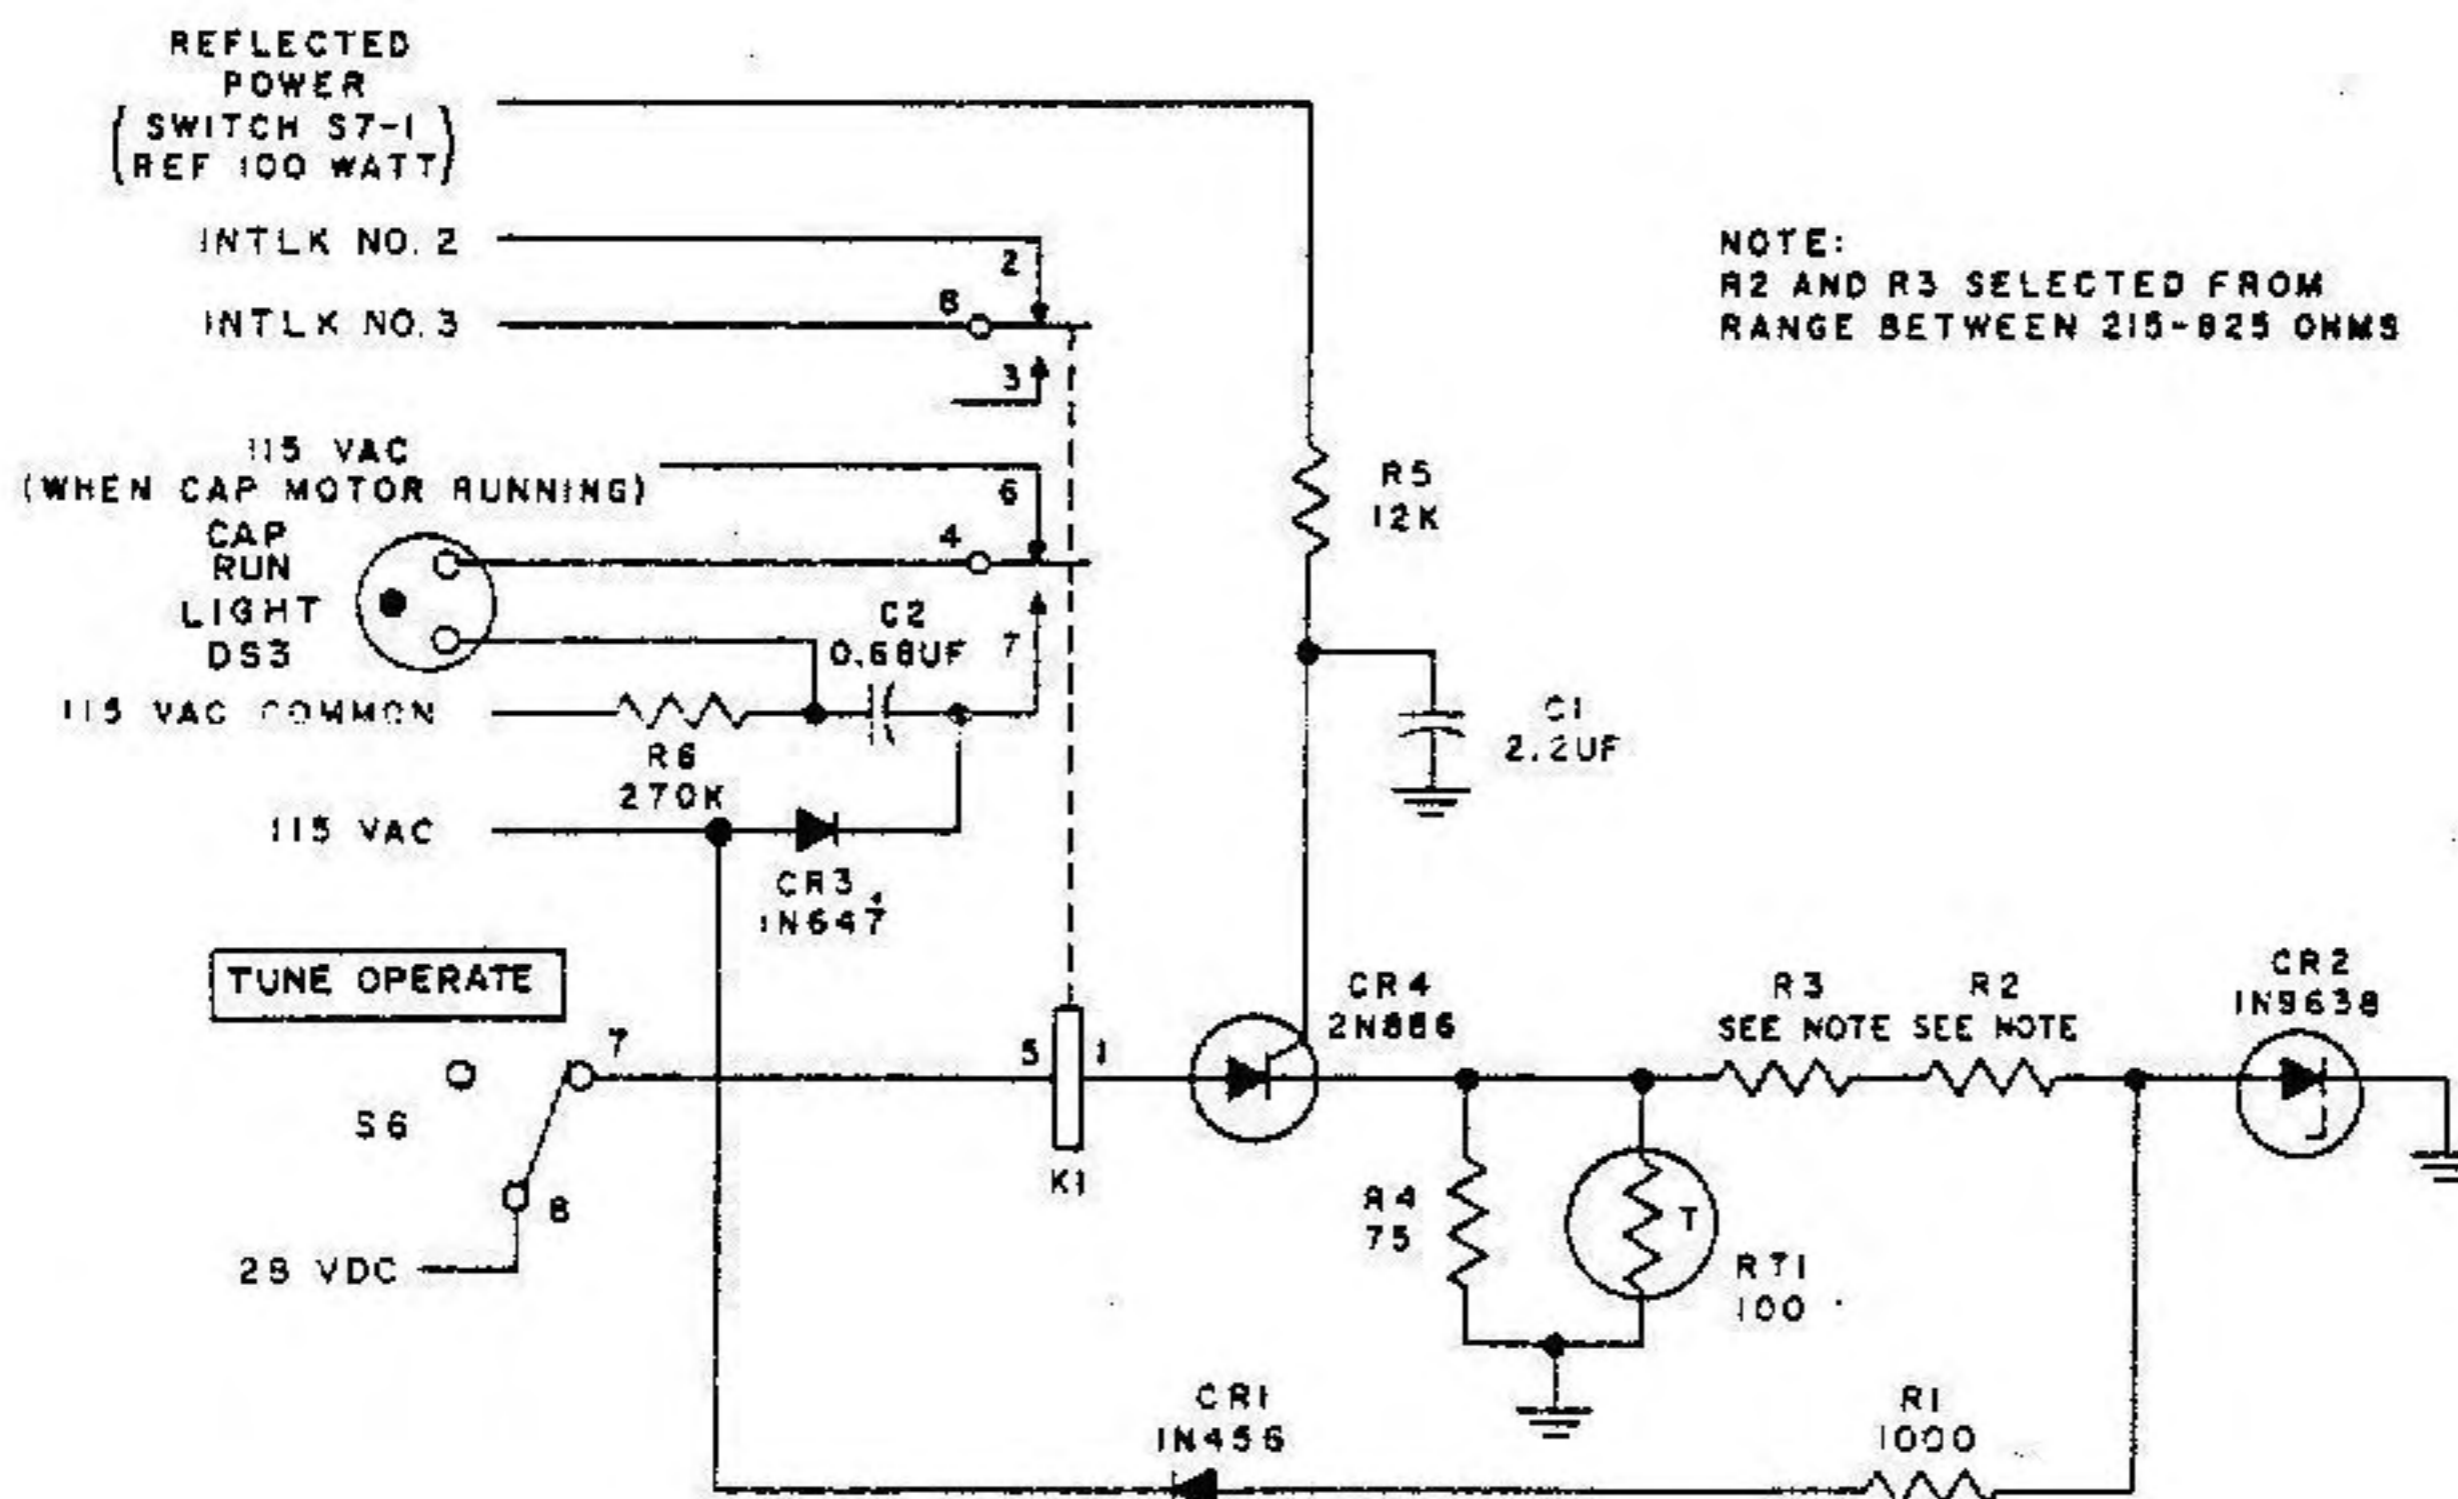

Figure 4-5. VSWR Protector 2A2, Simplified Schematic Diagram
(8) TUNE-OPERATE SWITCH. - When the TUNE-OPERATE switch is held in the TUNE position, the antenna coupler positioning circuits are enabled by the application of 115 volts ac. In addition, when the TUNE-OPERATE switch is in the TUNE position, the AN/XXX output is limited to a reduced "tune power." When the TUNE-OPERATE switch is released to the OPERATE position, the antenna coupler positioning circuits are disabled to prevent accidental de-tuning.
(9) VSWR PROTECTOR. - If, during full operation, the reflected power exceeds approximately 30 watts, the VSWR protector circuit will automatically disable the transmitter and cause the CAPACITOR run light to blink. Refer to figure 4-5 for the simplified schematic diagram.